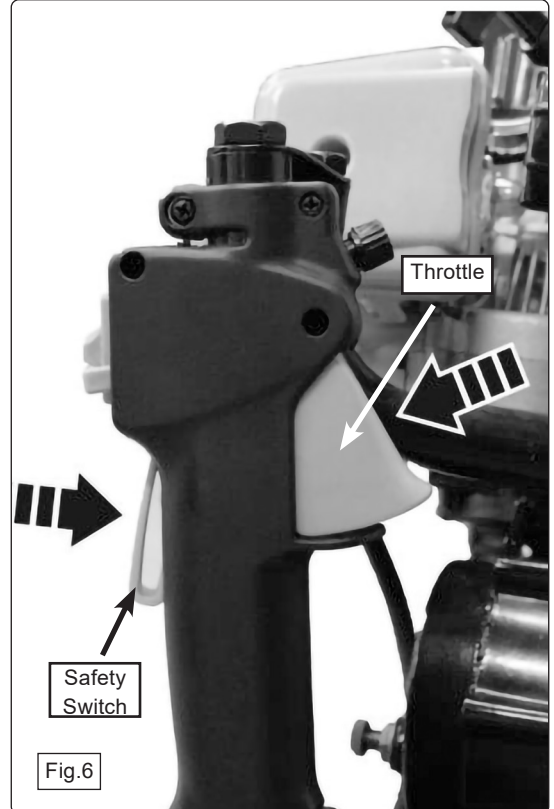

Fig.6
- 4.8.1.7. Depress the safety switch then squeeze the throttle trigger to start the operation (fig.2, fig.6). See Section 4.9 for instructions.
- 4.8.2.7. Depress the safety switch then squeeze the throttle trigger to start the operation (fig.2, fig.6). See Section 4.9 for instructions.
- 4.9.5. Gradually increase the speed by pressing and holding the safety switch and then pulling the acceleration trigger (fig.6). Exert some downward force.